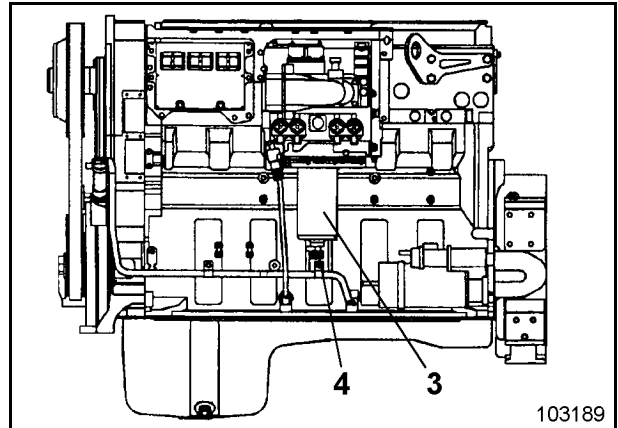

Fig. 3-34:
- Unscrew filters (3, Fig. 3-34:).